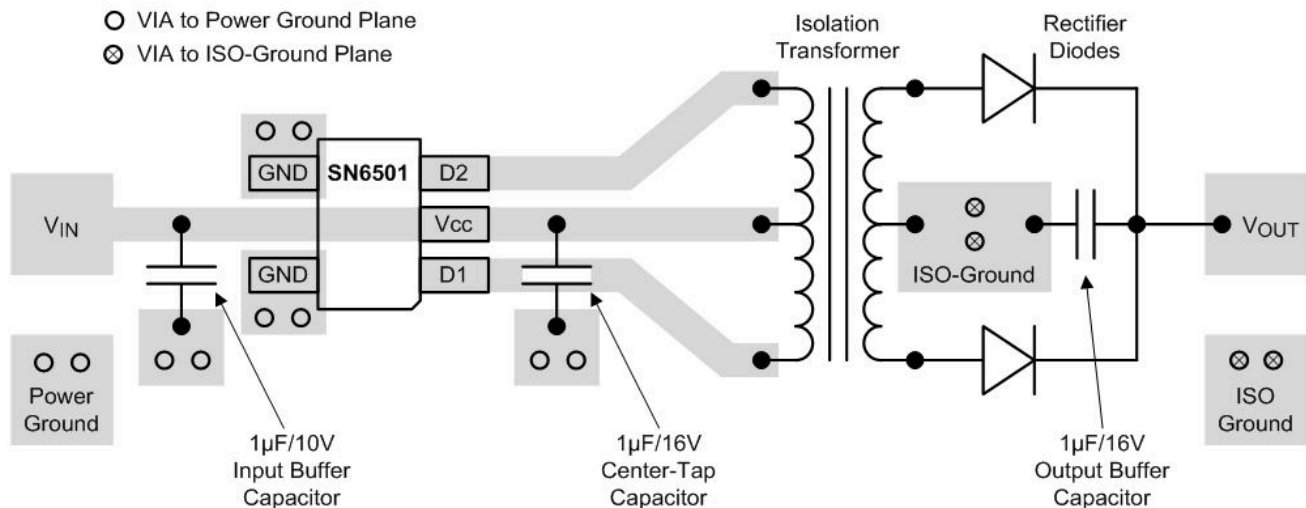

图 10-1. Layout Example of a 2-Layer Board (SN6501)
- The optimum placement is closest to the  $V_{IN}$  and GND pins at the board entrance to minimize the loop area formed by the bypass-capacitor connection, the  $V_{IN}$  terminal, and the GND pin. See Figure 10-1 for a PCB layout example.